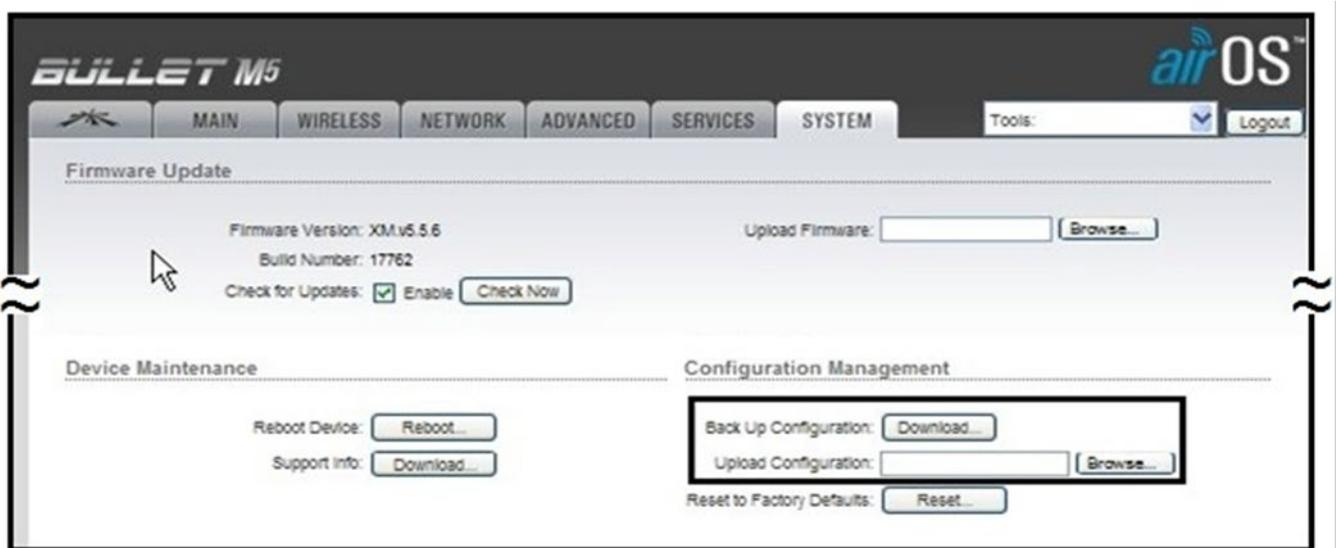

Figure 6 System Window
- a. Select the **SYSTEM** tab (See **Figure 6**).